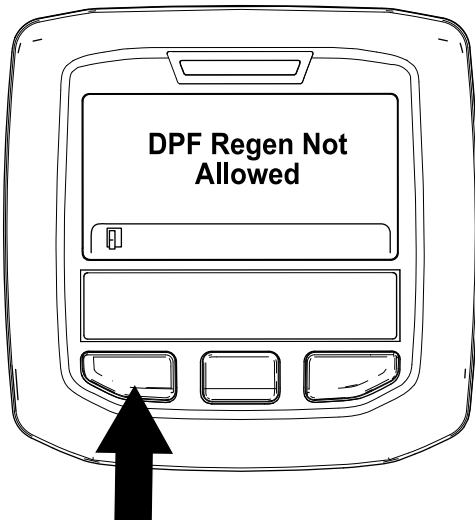

Figure 46
- If the regeneration process is not allowed by the engine computer, the “DPF Regen Not Allowed” message displays in the InfoCenter (Figure 46). Press the left button to exit to the home screen